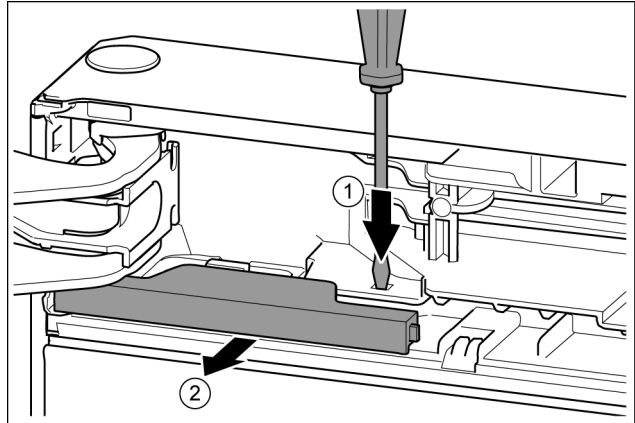

Fig. 14
- ▶ Press the tab with the slotted screwdriver. Fig. 14 (1)
- ▶ Pull cover out of the catch mechanism. Fig. 14 (2)